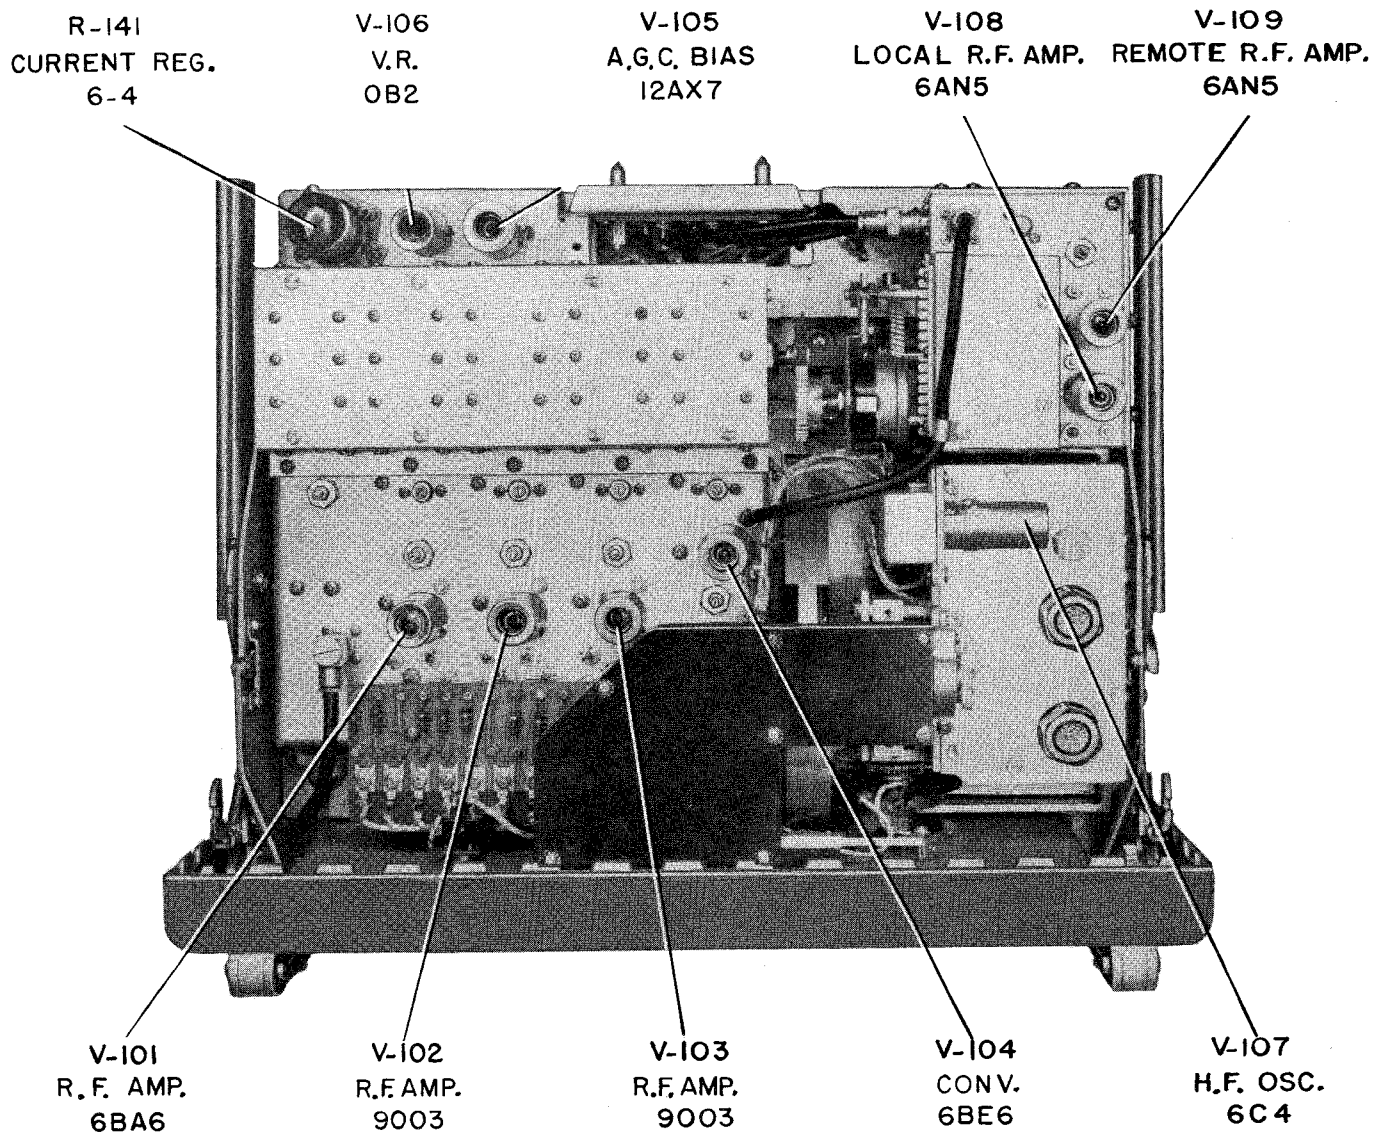

Figure 7-7. Tube Locations, Amplifier-Converter AM-450, AM-451, AM-452, AM-453/FRR-24
(2) ELECTRON TUBES.—All electron tubes employed in the AN/FRR-24 Radio Receiving Set are located and identified on Figures 7-7 through 7-20. If a particular tube is burned out, as observed visually by the absence of heater or filament glow or by feeling the tube to determine its temperature, the tube can be replaced by the same type of tube of proven quality. All tubes in the equipment are of the miniature-type except rectifiers, voltage regulators and oscilloscope tube. Great care is to be exercised in